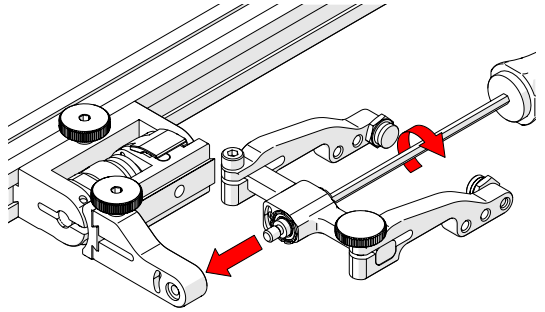

Fig. 108 - Install yoke to swing arm
6. Using the 3 mm hex driver, screw the yoke pivot screw into the opposite side of the probe holder swing arm (*Fig. 108*). Ensure the yoke is level to avoid issues with the plunger/set screw.